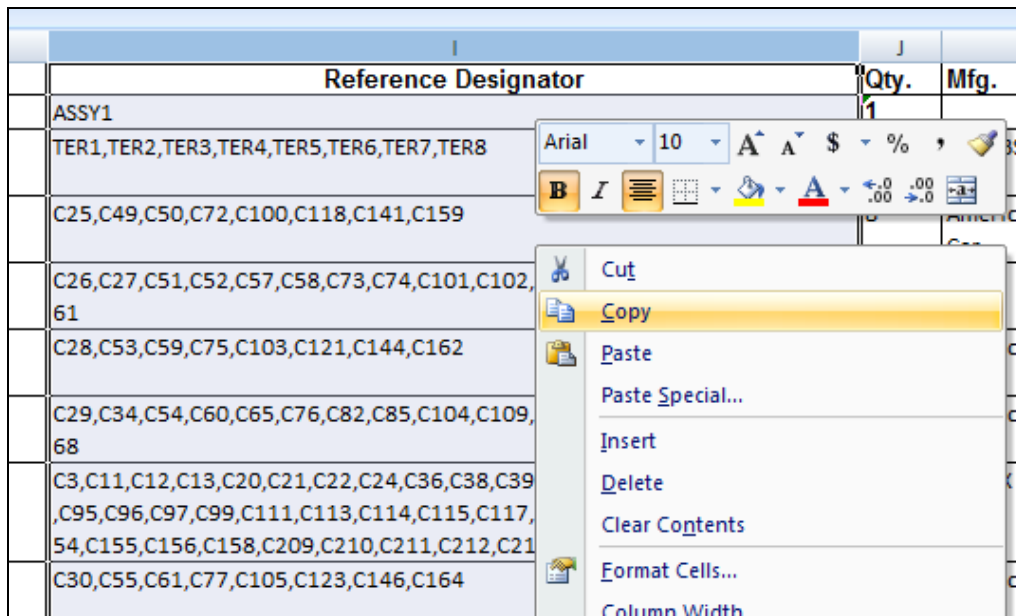

Figure 1. Copying “Reference Designators” from the Excel-based BOM Workbook
3. Locate the column containing the Reference Designators. Select all cells in that column that contain information, starting with the header, on down to the last row of data. Select Copy (see Figure 1).